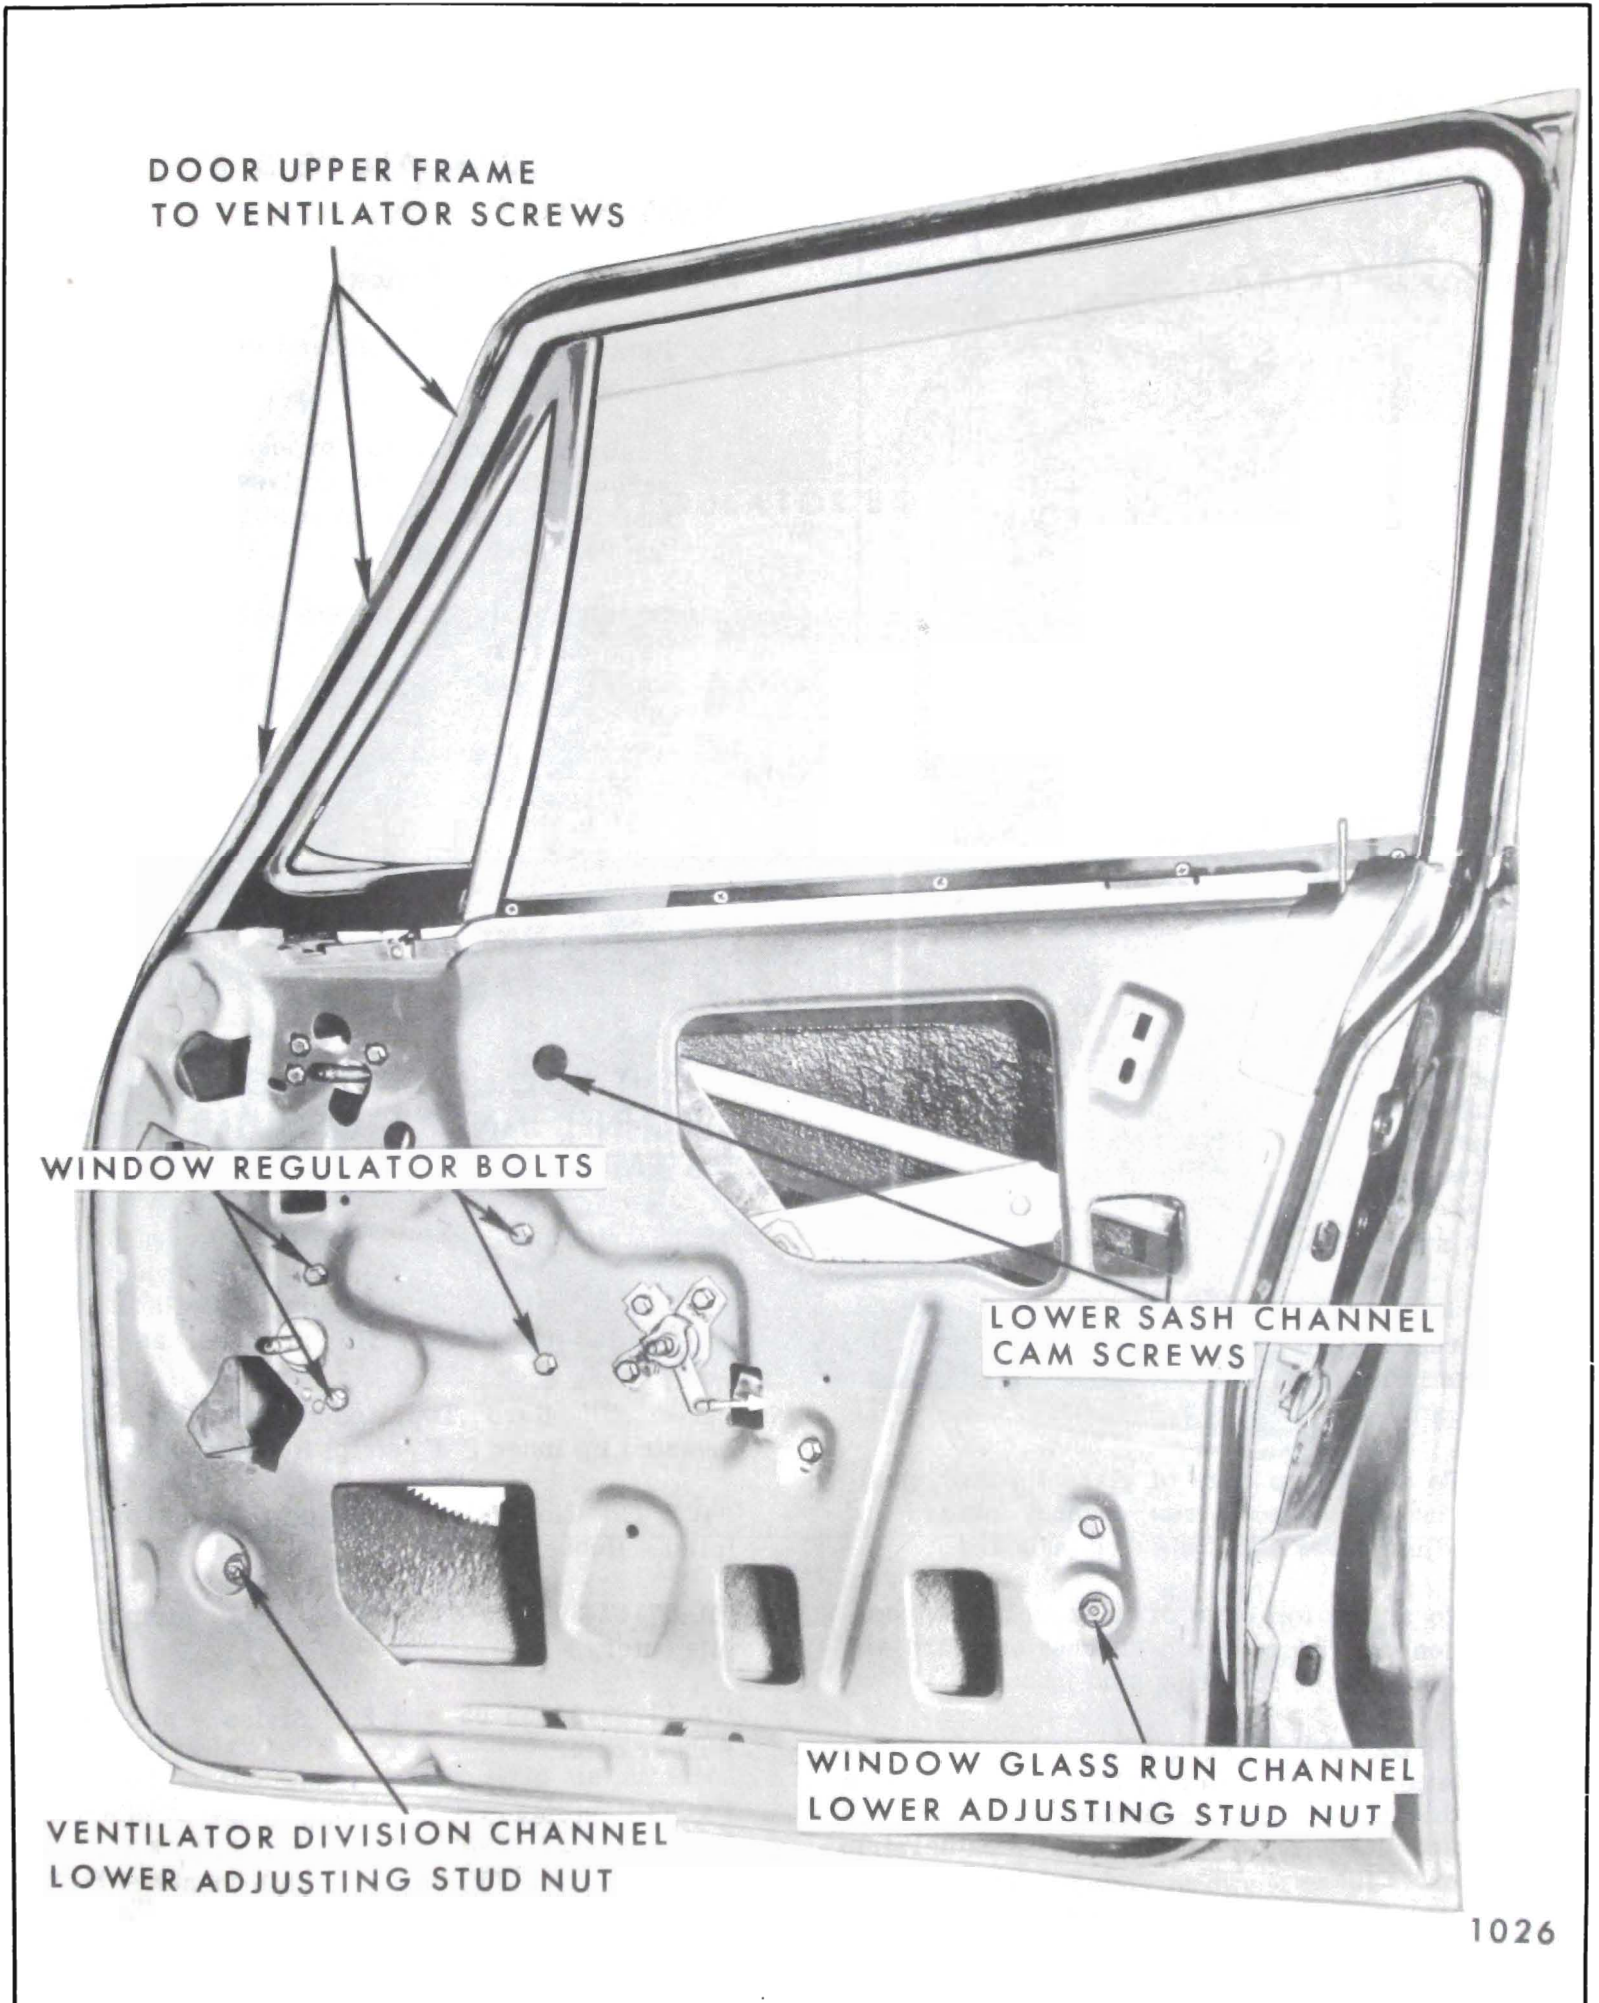

Fig. 7-73—Door Ventilator and Regulator Attachment - "B & C" Closed Styles
3. Remove glass run channel lower adjusting stud nut (Fig. 7-73).